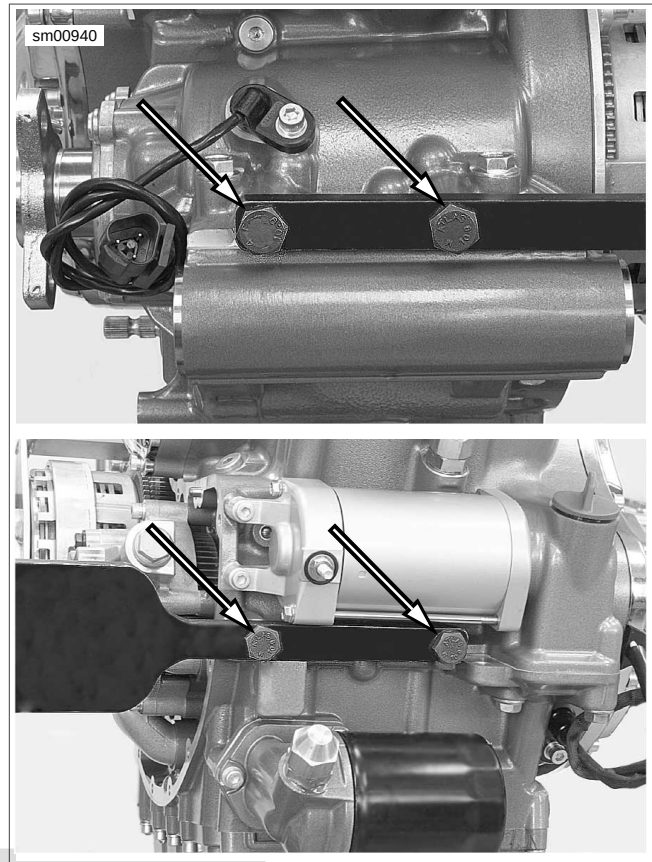

Figure 3-8. Cradle Fasteners in Upper Engine Case
1. See Figure 3-8. Using fasteners provided, install ENGINE CRADLE to rear of upper engine case.